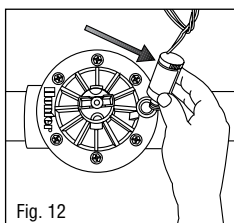

Fig. 12
1. Remove the solenoid from the Hunter PGV or ICV irrigation valve. (Also remove the flow control knob on the 1" ICV.) See Figure 12.